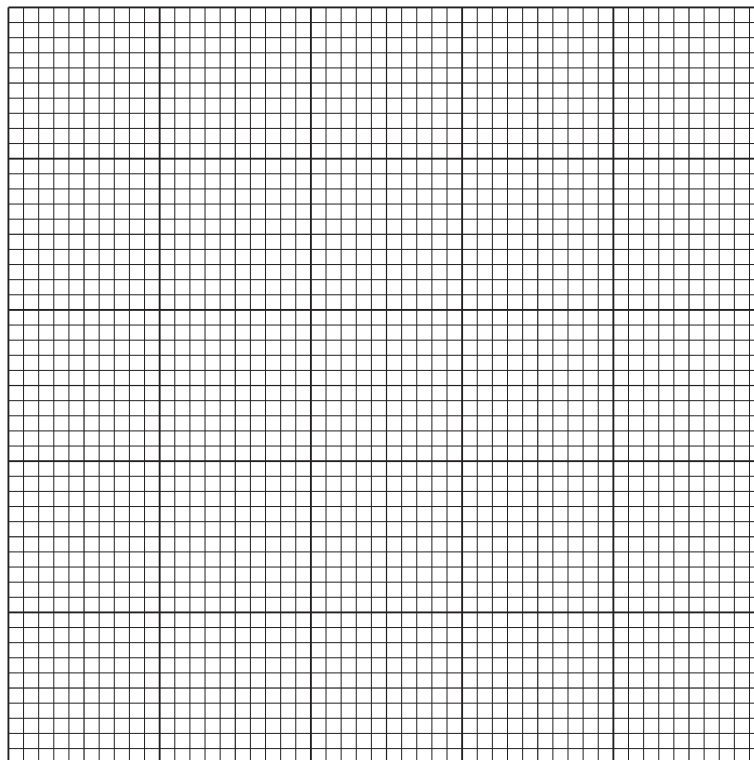

Fig. 1.3
- (i) Plot a graph of the data in Table 1.2 on the grid in Fig. 1.3.
(ii) Describe the change in percentage concentration of sucrose shown by your graph in Fig. 1.3.